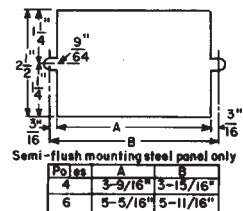

Fig. 9. Semi-flush mounting steel panel only
Fig. 9 shows a composite assembly of a 6-pole PK-2 test block with auxiliary contacts and jumpers, as follows:
- No. 4— Auxiliary contact (Cat. No. 6179685G1) equal to one pole of contact No. 2, to be used in connection with jumper No. 3 as shown in Fig. 9. If all poles are to be